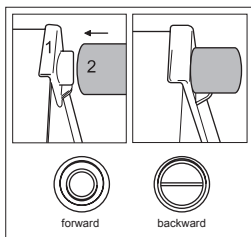

Figure 1. Installation of limit stops
- Install the limit stops to the upper corners on the rear wall of the refrigerator as shown in Fig.1. The stops are supplied in the door basket inside the refrigeration compartment;